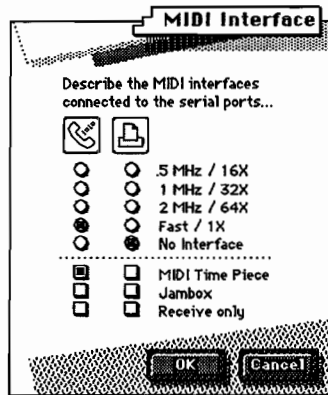

Figure 12-20: Performer's MIDI Interface Dialog
- Choose **MIDI Interface** from Performer's **Basics** menu and configure it as shown in Figure 12-20. This indicates that a MIDI Time Piece (which is what the Studio 5 is emulating) is connected to the Macintosh's Modem port and that it is operating in Fast mode.